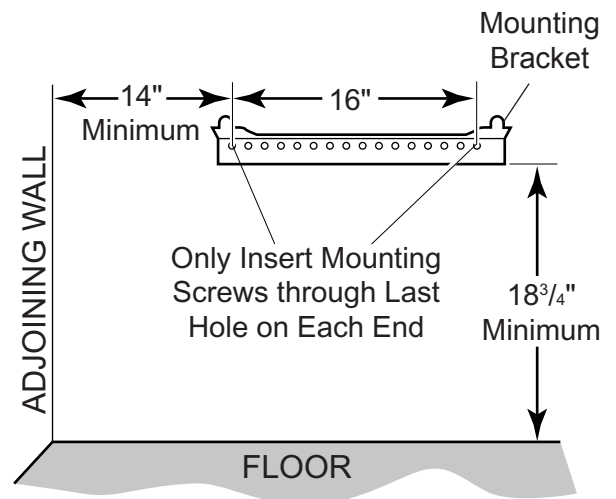

Figure 9 - Mounting Bracket Clearances Attaching Mounting Bracket To Wall
The mounting bracket is located in the package tray (see Figure 9). Remove mounting bracket from tray.
Only use last hole on each end of mounting bracket to attach bracket to wall. These two holes are 16 inches apart from their centers (see Figure 9). Attach mounting bracket to wall studs. This method provides the strongest hold. Insert mounting screws through mounting bracket and into wall studs.
Maintain minimum clearances shown in Figure 9. If you can, provide greater clearances from floor and joining wall.
2. Mark screw locations on wall (see Figure 9).